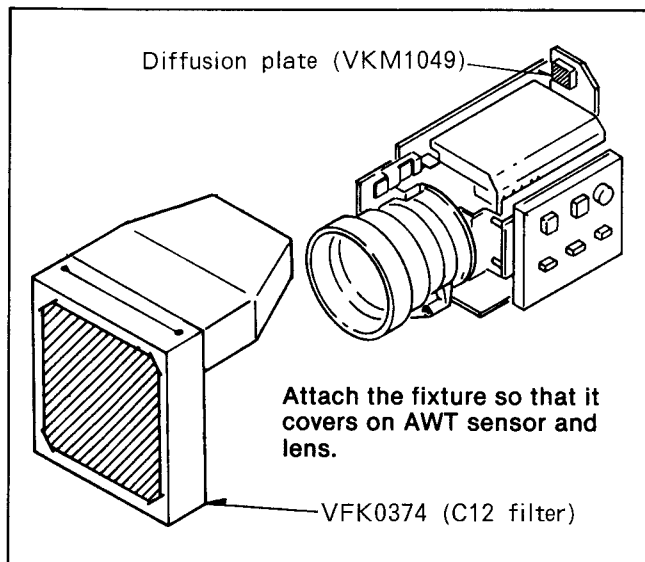

Fig. C30
- (1) Set the White balance selector for "AUTO" position.
- (2) Aim the camera at the white chart, Lighting should be a 3200 degrees K Halogen lamp.
- (3) Supply the video signal to the vectorscope.
- (4) Attach the diffusion plate (VKW1049) on to surface of AWT sensor and taping around the sensor with black tape so that any light is not entered to sensor from the gap between sensor and diffusion plate.
- (5) Set the color temperature conversion filter (VFK0374) to the fixture as shown in Fig. C30.